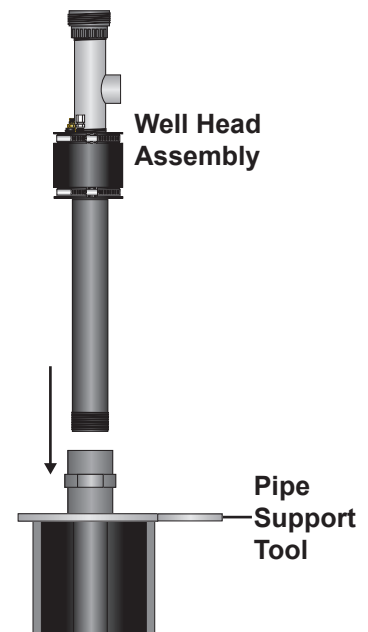

Figure 11
11. Screw wellhead assembly onto top section of drop pipe (**Figure 11**), using Teflon tape. Tighten firmly with pipe wrenches.